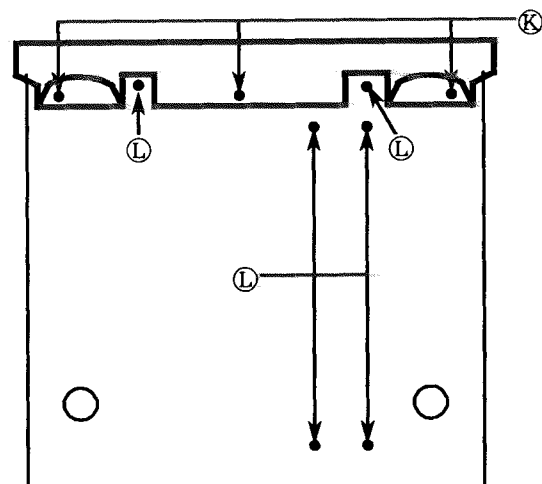

FIG.4 Bottom side
6. Remove 6 screws (L).(FIG.4)